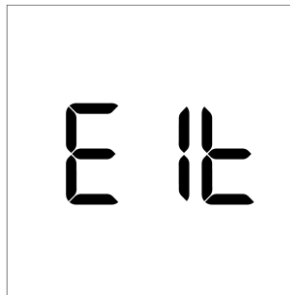

Fig 5.18
- Press power button to save the Assessment of CHD set and exit the system settings (Ref Fig 5.18).